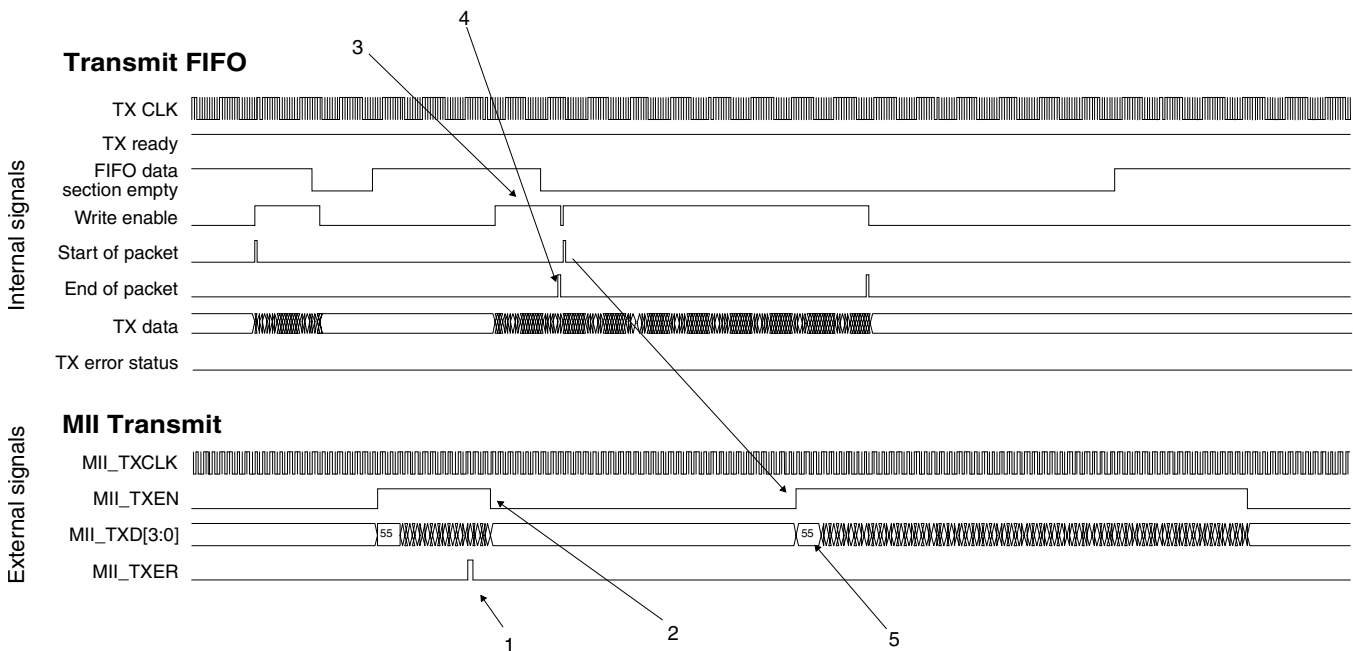

Figure 45-16. Transmit FIFO underflow protection
- Asserts the MII error signal (MII_TXER) (1 in Figure 45-16) to indicate that the fragment already transferred is not valid
- Deasserts the MII transmit enable signal (MII_TXEN) to terminate the frame transfer (2)